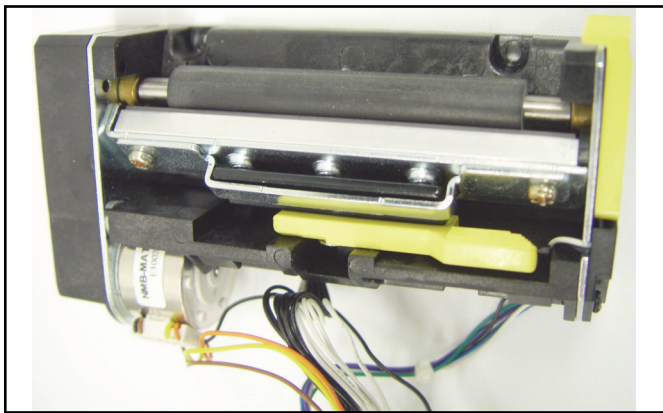

Figure 1 GEN2U Print Head Assembly (P/N 400-00007-100)
**Usage:** The Print Head Assembly (**Figure 1**) is used on the GEN2U and GEN2 Printers, and provides quick and easy replacement of the Print Head and associated components. The Print Head Assembly components include the Print Head, Print Head Motor, Platen Roller, TOF Sensor and harnesses. Replacement of the GEN2U Print Head Assembly is part of a comprehensive maintenance program designed to improve ticket print quality, printer performance and customer satisfaction.